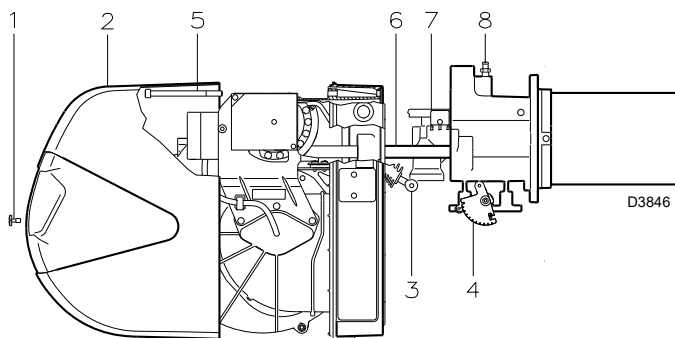
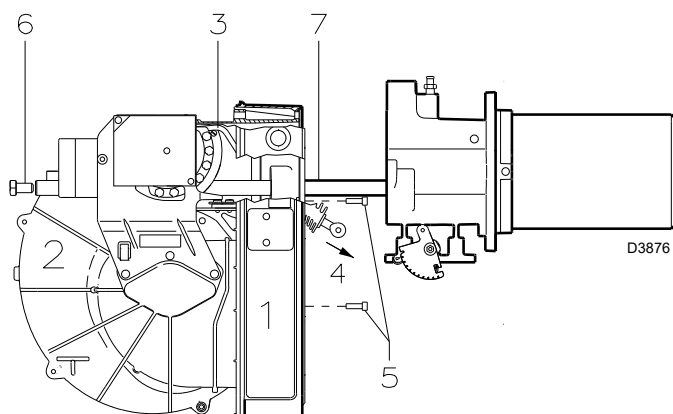

Fig. 37
Fig. 38
- Loosen the screw 1)(Fig. 37) and remove the hood 2).
- Disengage the articulated coupling 3) from the graduated sector 4)(Fig. 37).
- Remove the screw 5)(Fig. 37) only with the long head models; pull the burner back on the slide bars 6)(Fig. 37) for about 100mm.
- Now extract the gas distributor 7)(Fig. 37) after having removed the screw 8)(Fig. 37).
Assemble the inner part of the combustion head by tightening the screw 8)(Fig. 37) to a tightening torque of  $4 \div 6 \text{ Nm}$
- Replace the screw 5)(Fig. 37) and carefully pull the probe and electrode cables outwards until they are slightly taut.
- Reposition the cover 2)(Fig. 37) and fix with the screw 1)(Fig. 37).
If it is necessary to carry out maintenance on the electrical panel 1)(Fig. 38), it is possible to remove only the fan unit 2)(Fig. 38), to allow improved access to the electrical components.
With the burner open as in Fig. 37, unhook the tie-rod 3)(Fig. 38), removing the screw on the adjustable profile cam, and extract it from the tip 4)(Fig. 38).
Remove the 3 screws 5)(Fig. 38) positioned on the protective cover.
Removing the 2 screws 6)(Fig. 38), it is possible to unthread the fan unit 2)(Fig. 38) from the slide bars 7)(Fig. 38).
Finally, you can use 2 of the 3 screws 5)(Fig. 38) to fix the electrical panel to the pipe coupling, in the points indicated in Fig. 39, and then carry out the maintenance operations.